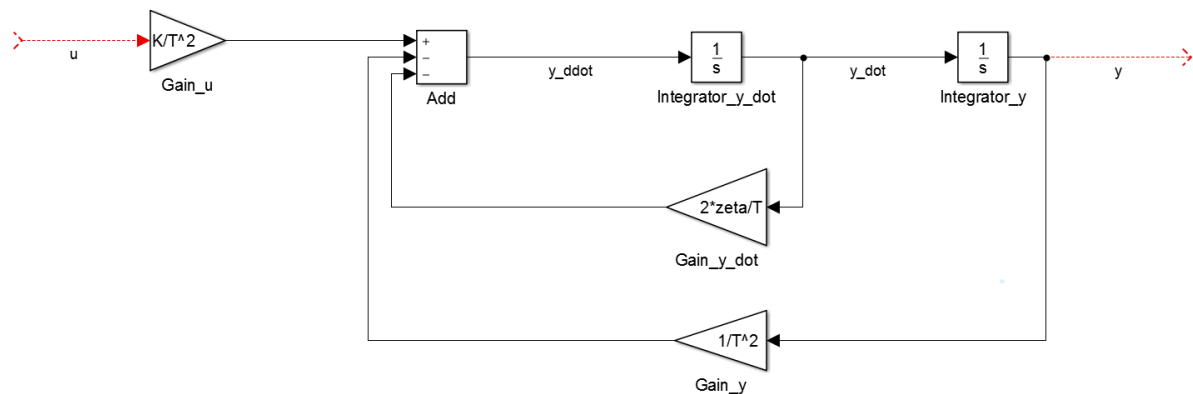

Figure 1-2: PT2 system
(6) Connect the blocks to obtain the diagram as shown in Figure 1-2. Rename the input signal to the `Gain_u`-block as `u`.